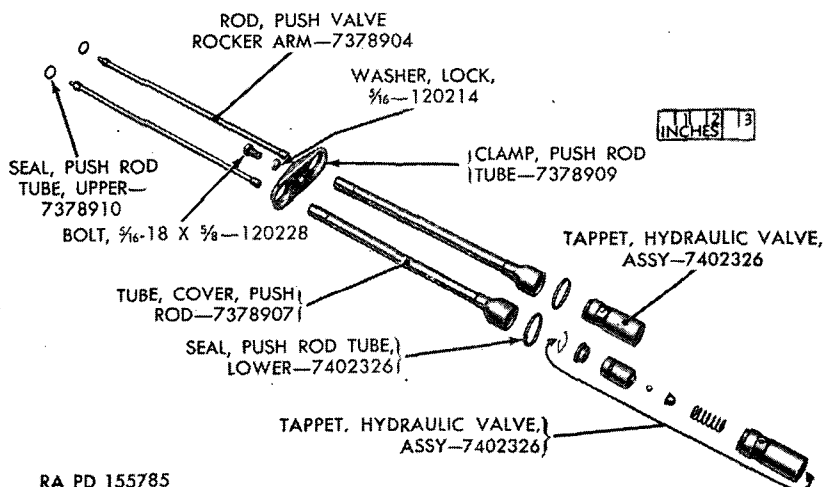

Figure 75. Valve push rods and tappets—exploded view.
- b. Assemble ball and ball retainer in spring (fig. 75); then insert this assembly into bore of tappet body. Slide plunger and push-rod seat into body bore and secure in place with retainer.